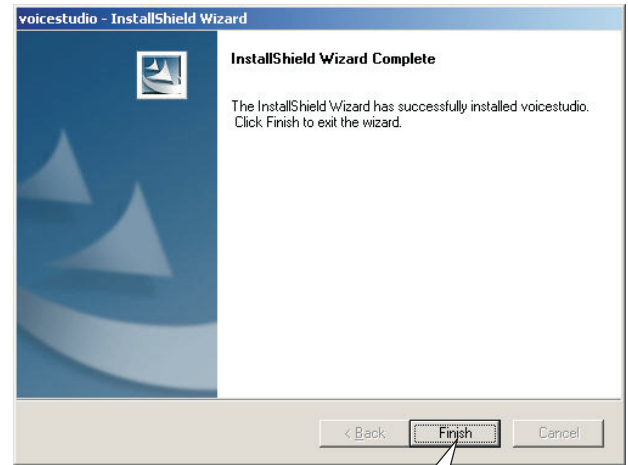

Figure 20
- If appears following picture, click Finish, the quick way of starting software will produce automatically on the tabletop, whose name is VoiceLAB, as shown in figure 20: